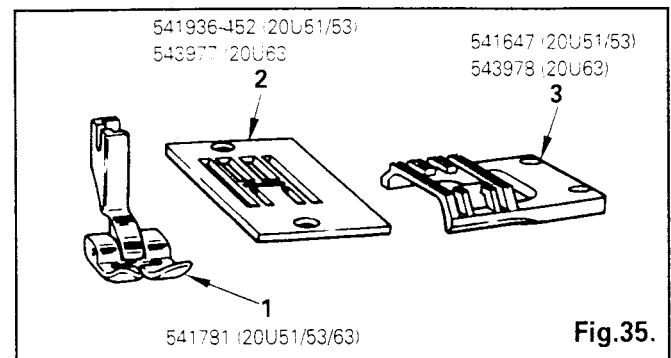

Fig.35.
Buttonhole Foot (1), General Purpose Throat Plate (2) and Feed Dog (3) as shown in Fig.35 are used for buttonhole stitching.